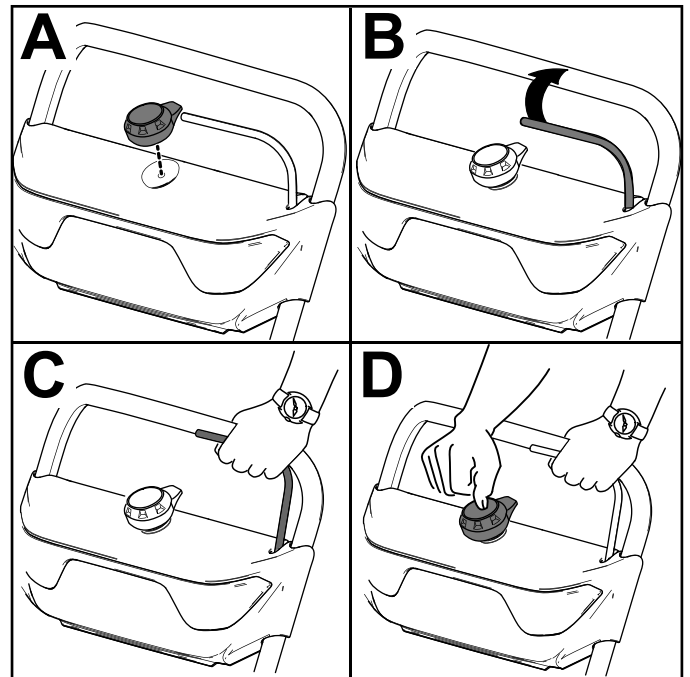

Figure 12
2. Insert the electric-start button into the electric starter (A of Figure 12).
3. Squeeze the bail and hold it to the handle (B and C of Figure 12).
4. Press the electric-start button until the motor starts (D of Figure 12).